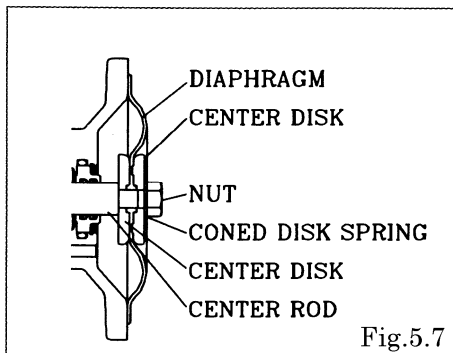

Fig.5.7
- Keep the convex side to the outside (cf. Fig. 5.7).